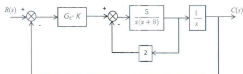
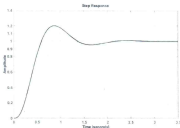

Figure 7: Block diagram of a CNC milling machine control system
Figure 8: A step response of a CNC milling machine control system
6. Figure 7 shows a block diagram with forward gain, K representing motion control of a CNC milling machine positioning table ball screw-driven system. Figure 8 then shows the current step response for this system. Design a suitable controller using the root locus technique that will improve the system transient performance in a way that halves the settling time while maintaining the percentage overshoot value. Compare the step response results of both the uncompensated and the compensated system.